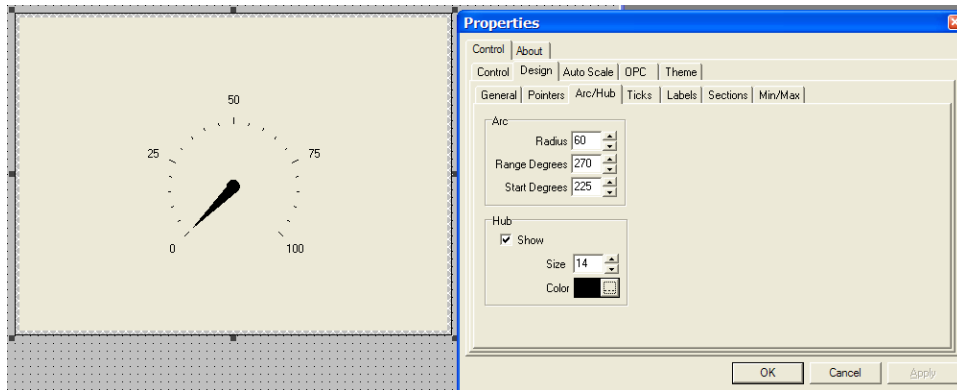

Figure 1
4. Click the tabs Control/Design/Arc Hub. Enter the range and start data, then click Apply to see the gauge, as shown in Figure 1.